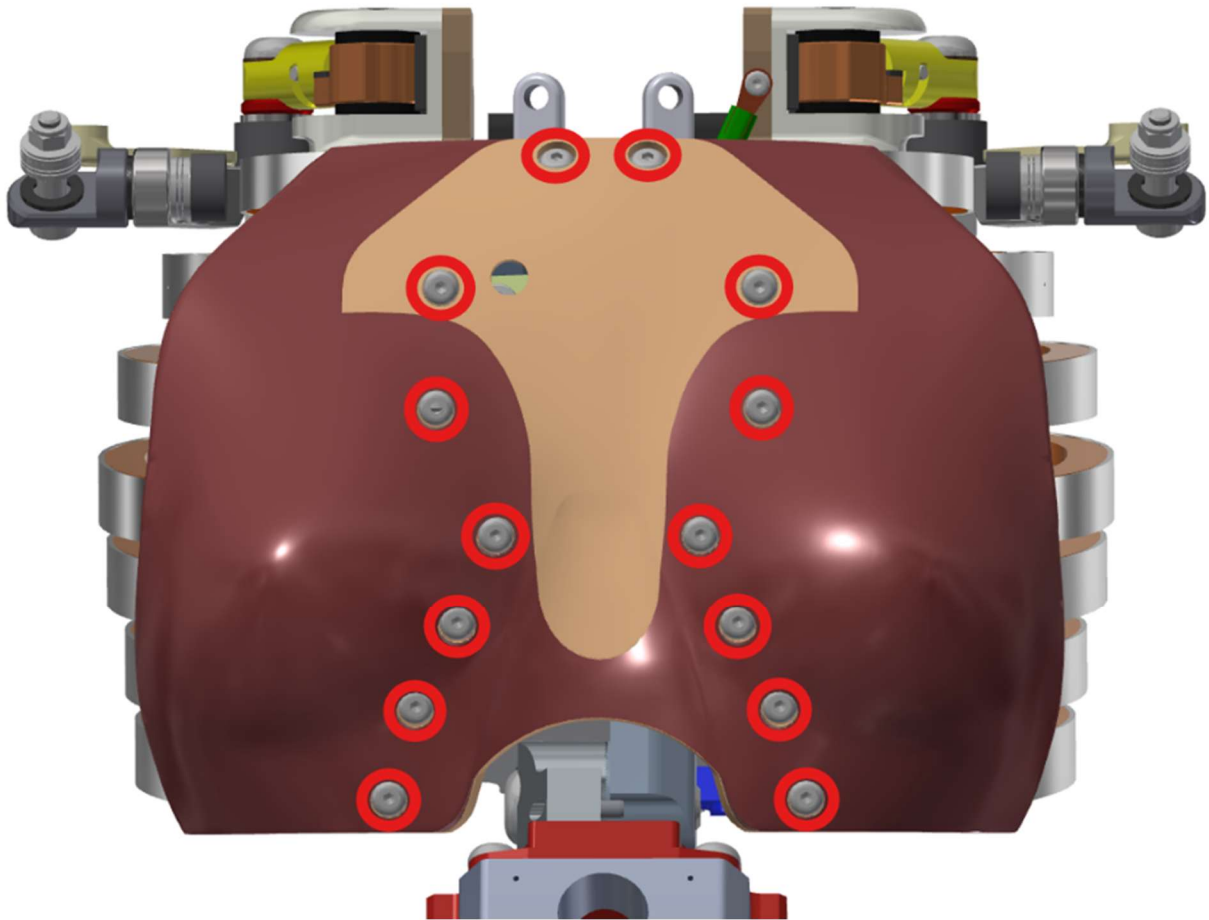

Figure 5-66. Attach the sternum to the front of the ribs
5.3.31 Attach the Molded Chest-Flesh Sternum (474-3730-A) to the front of the ribs using fourteen M5 X 0.8 X 12 LG. BHCS (Figure 5-66).